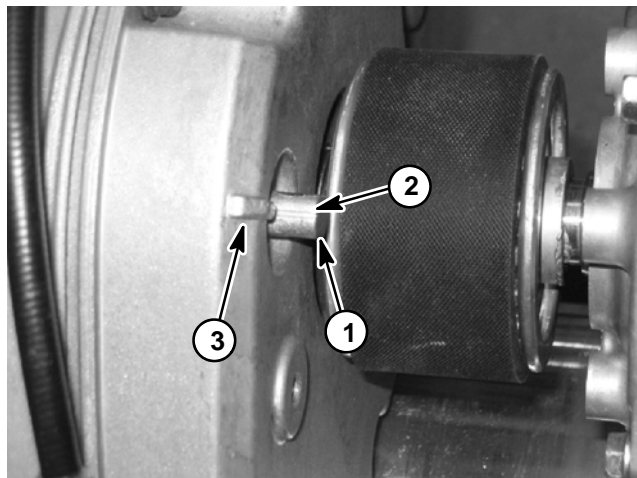

Figure 3
4. To engage the idler into the transmission drive belt, use a 3/8" wrench to rotate the engage/disengage shaft 1/4 turn counter-clockwise. The transmission belt is properly tensioned when the alignment marks on the engage/disengage shaft and the transmission cover are aligned (Fig. 3).